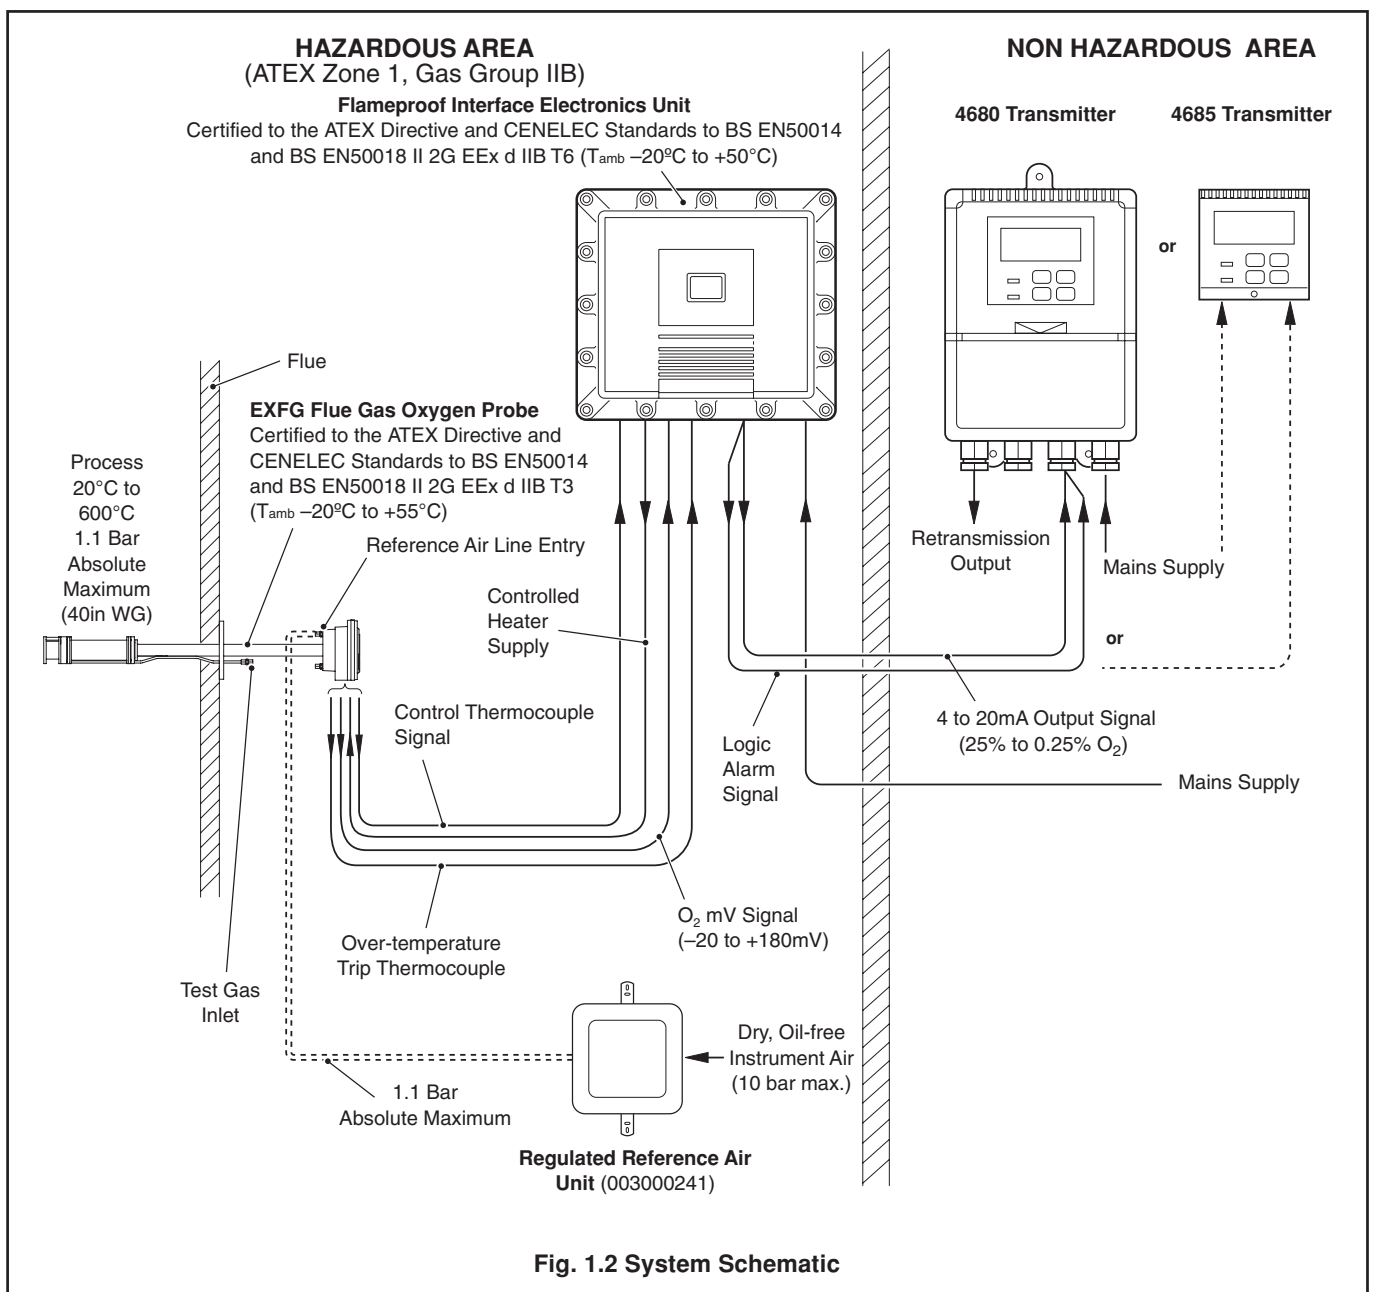

Fig. 1.2 System Schematic
1.3 System Overview – Fig. 1.2